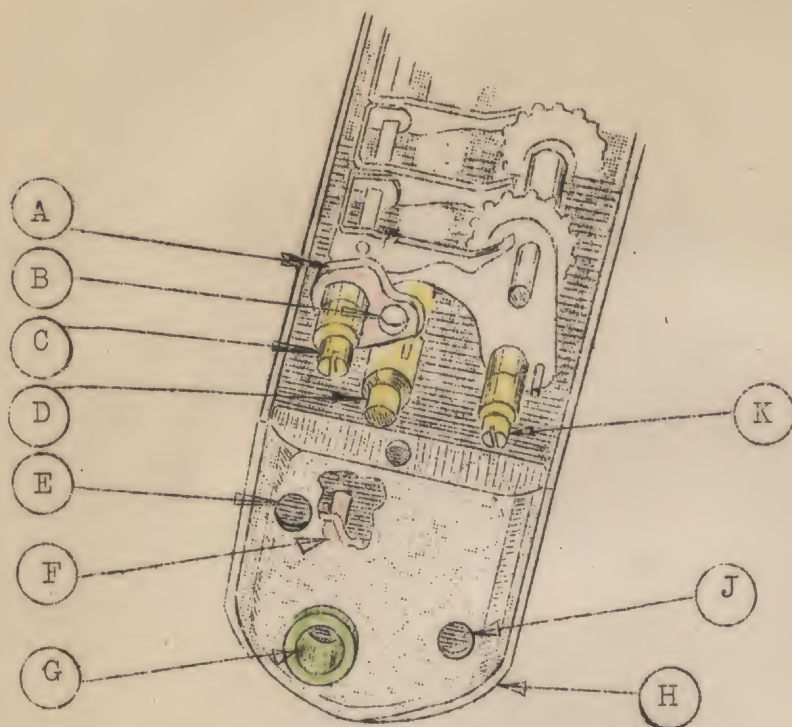

FIG. 4
- (14) Install the keyboard in the machine, as shown on Plate 31, Supplement C, and insert screw (H) by positioning the mechanism as shown in Figure 3, after which reposition guide blank (A) to its original position. Position the mechanism as shown in Figure 4, and insert the proper screw in hole (C) after which restore guide blank (B) to its original position. Install the two front keyboard screws.
- (15) Locate spring (A) on post (E) as shown. Position the end of the pivot bar (C) over end (B) of the spring with lug (D) located at (G) under post (E). Insert end (F) of the spring in the slot of the cross frame as shown.